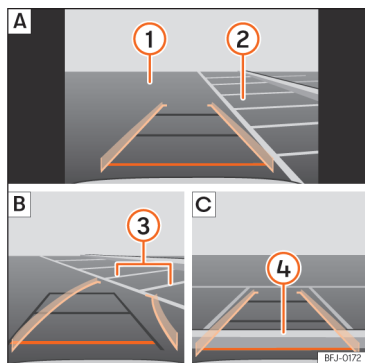

Fig. 147 Display on the infotainment system screen: parking with the reverse assistant.
Key to the >>> **Fig. 147:**
- Stop the vehicle in front of the parking space >>> **Fig. 147** **2** **A**.